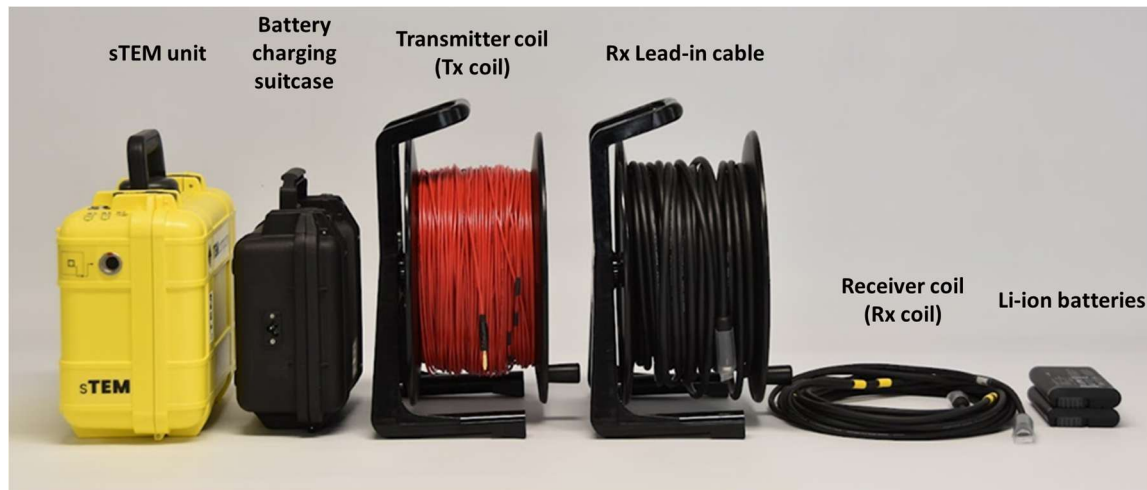

Figure 3. Main components of the sTEM system
Figure 3 shows the main components of a sTEM system.
- Yellow corner markers on cable help to form a square loop (see Figure 3).